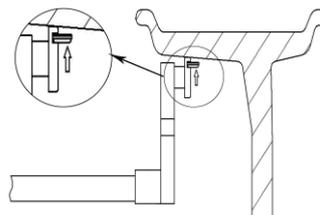

Figure10-4
10.4.5 Press [T], enter the tracking sticking function. Clipping the inside sticking weights with glue side up on the measuring ruler head, rotating the wheel, when inside counterweight position indicator light all on, and show "OK", pull out the measuring scale until the inside tracking sticking indicator light all on, spin the measuring scale and stick the weights on the rim. Figure 10-4
10.4.6 Clipping the outside sticking weights with glue side up on the measuring ruler head, rotating the wheel, when outside counterweight position indicator light all on, and show "OK", pull out the measuring until the outside tracking sticking indicator light all on, spin the measuring scale and stick the weights on the rim. Figure 10-4
10.5.5 Press [T], enter the tracking sticking function. Clipping the outside sticking weights with glue side up on the measuring ruler head, rotating the wheel, when outside counterweight position indicator light all on, and show "OK", pull out the measuring scale until the outside tracking sticking indicator light all on, spin the measuring scale and stick the weights on the rim. Figure 10-4
- 10.6.5 Press [T], enter the tracking sticking function. Clipping the sticking weights with glue side up on the measuring ruler head, rotating the wheel, when counterweight position indicator light all on, and show "OK", pull out the measuring scale until the tracking sticking indicator light all on, spin the measuring scale and stick the weights on the rim. Figure 10-4